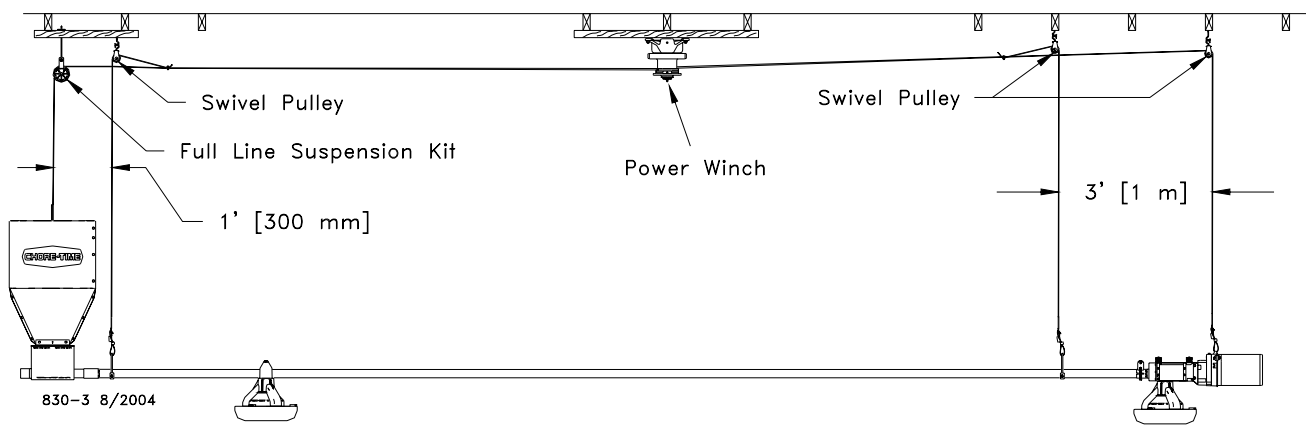

Figure 8. Suspension for systems up to 350' [107 m]
Suspend the hopper, as shown in **(Figure 8)** by routing the cable around the Full Line Suspension Pulley and fastened to the main cable, using (2) cable clamps.